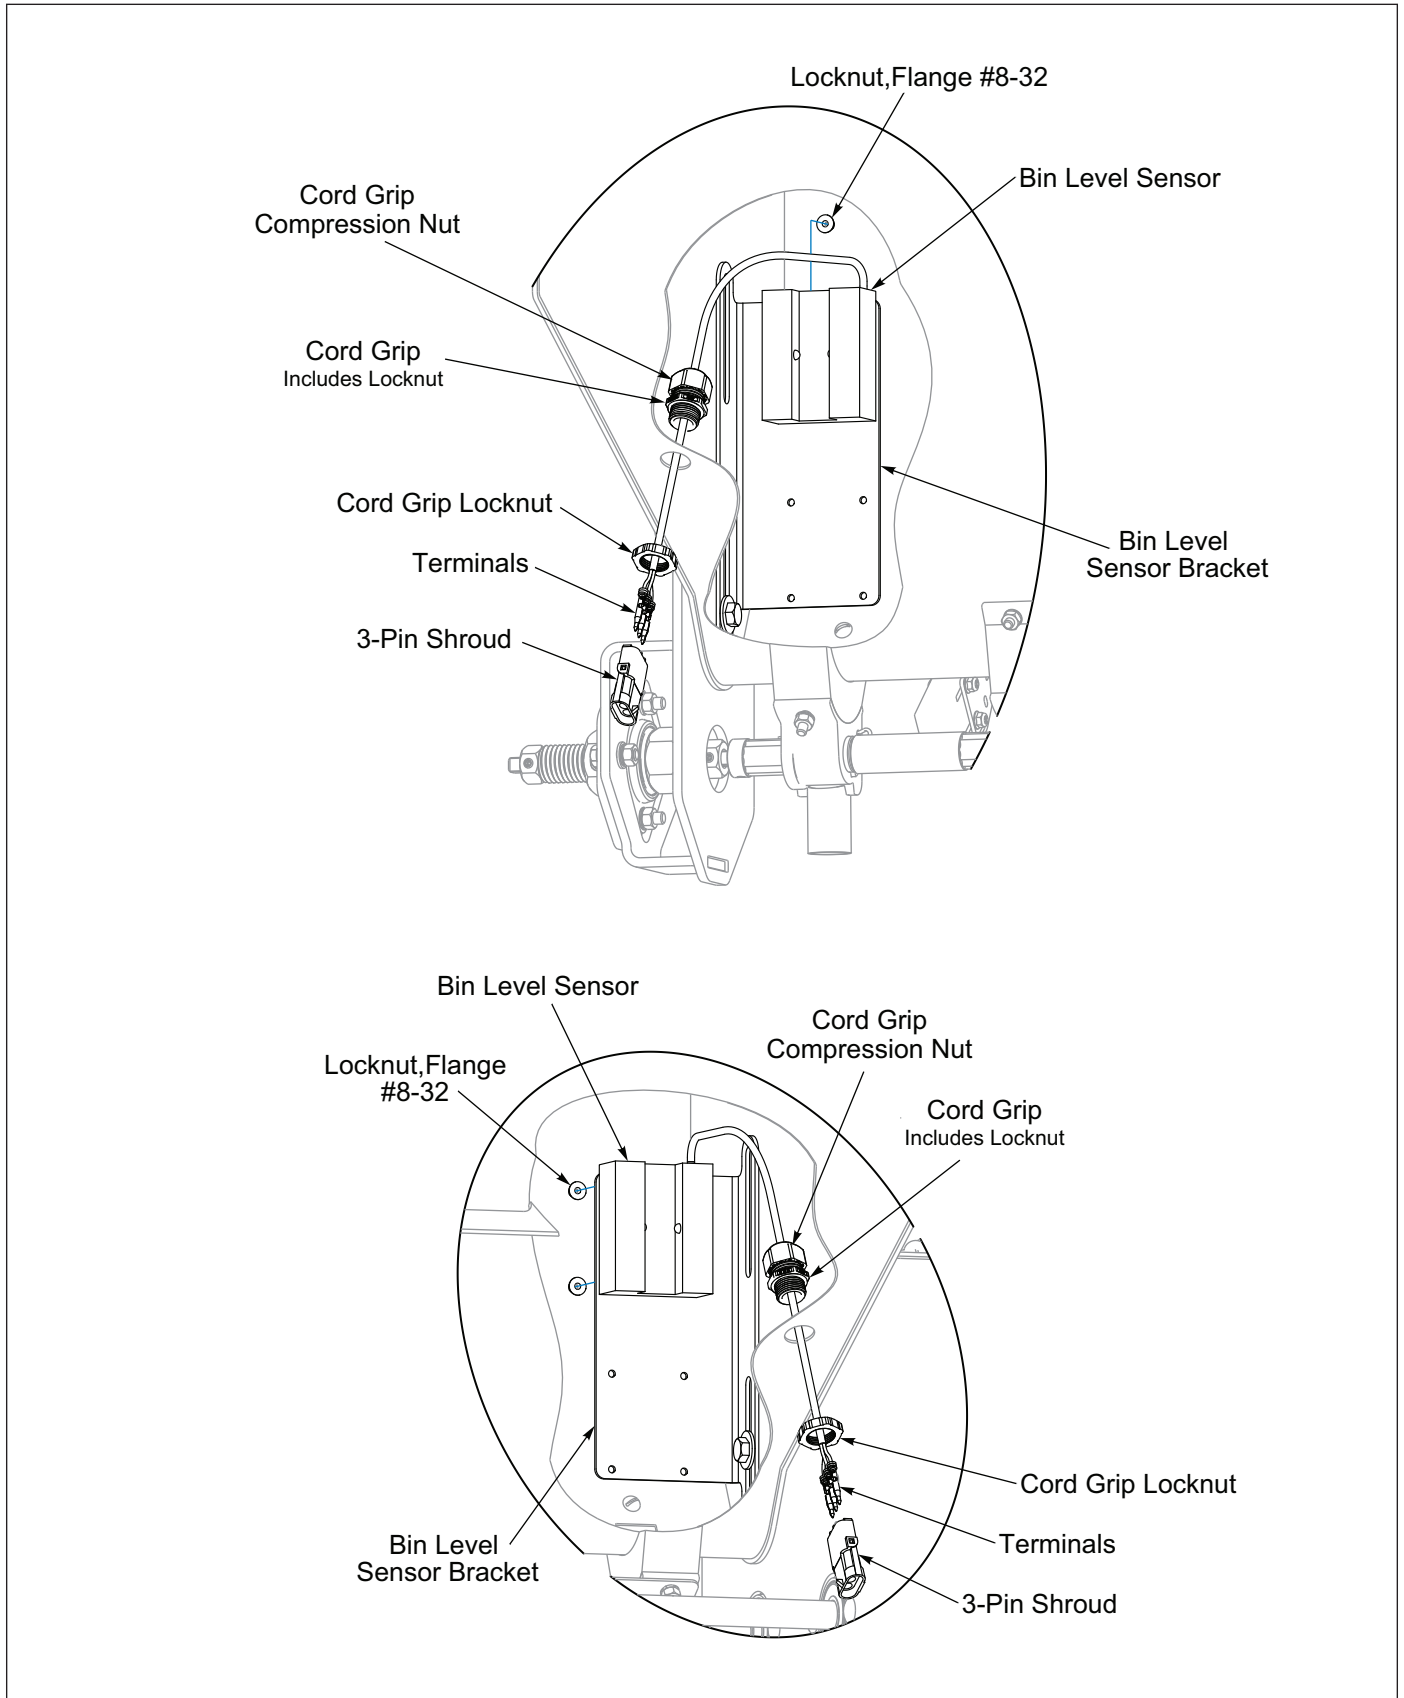

Figure 2-7: Brillion Elite Mini Monitor - Bin Level Sensor
3. Each Seeder Section has a Bin Level Sensor Bracket on the inside at either end. See Figure 2-7. Determine the desired level for the alarm to be indicated on the Brillion Elite Mini Monitor and assemble the Bin Level Sensors to Bin Level Sensor Brackets with sensor provided hardware and #8-32 Flange Locknuts. If more adjustment is needed, the Bin Level Sensor Brackets can also be raised or lowered to the desired seed level. Install Cord Grips from the inside of the Seed Box out and secure with supplied Locknut on the outside of the Seed Box. To get the Sensor Connector outside the Seed Box, feed the terminals through the Cord Grip. Install the terminals into the 3-Pin Shroud labeled "A", "B" and "C" as follows "A" White, "B" Black, "C" Green. Inside the Seed Box, add enough slack to the Bin Level Sensor Cord to allow for future adjustment of the Sensor. Secure the Bin Level Cord by tightening the Cord Grip Compression Nut. Connect both Bin Level